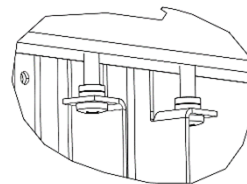

Figure 12
STEP 23: Finally use both M6 x 25 screws on the outward facing sides of both enclosures brackets then tighten with a Phillips screw driver until the bracket and wall plate are clamped together tightly (Figure 12).